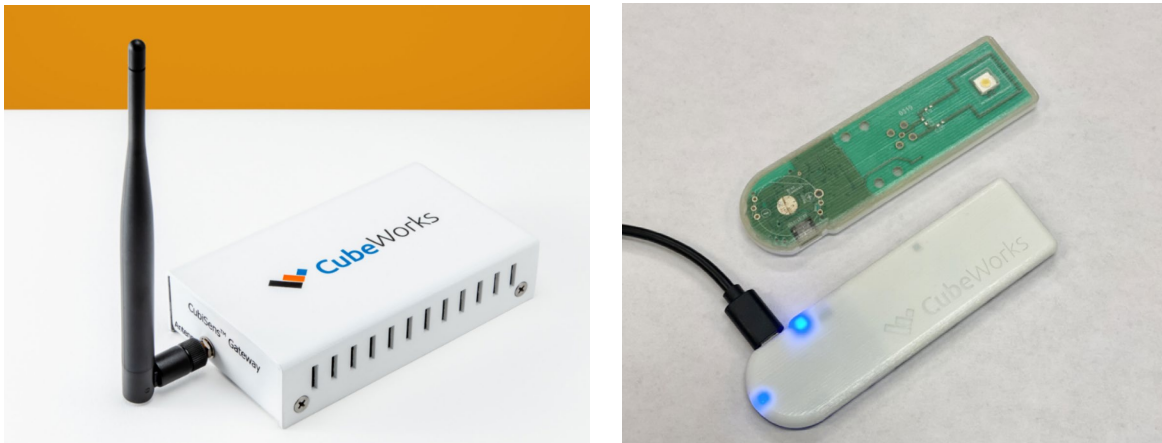

Figure 5. AH110 Communications Kit Hardware Connections
1. Screw in the antenna to the CSG100-A9 CubiSens™ Gateway as shown in Figure 5.
7. Verify that two blue LEDs light up in the programmer, and that one starts blinking, as shown in Figure 5.